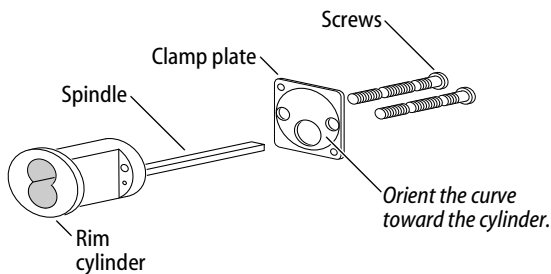

Figure 8 Rim cylinder components
- 3 Orient the cylinder and clamp plate as shown in Figure 8. From the inside of the door, secure the cylinder using the clamp plate and mounting screws.